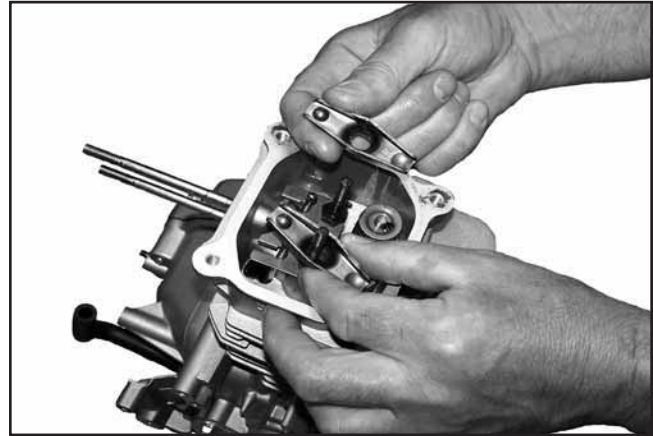

Figure 10-21. Installing Rocker Arms.
5. Install the rocker arms onto the rocker studs. Match the rocker arm dimples with the round push rod ends. See Figure 10-21.